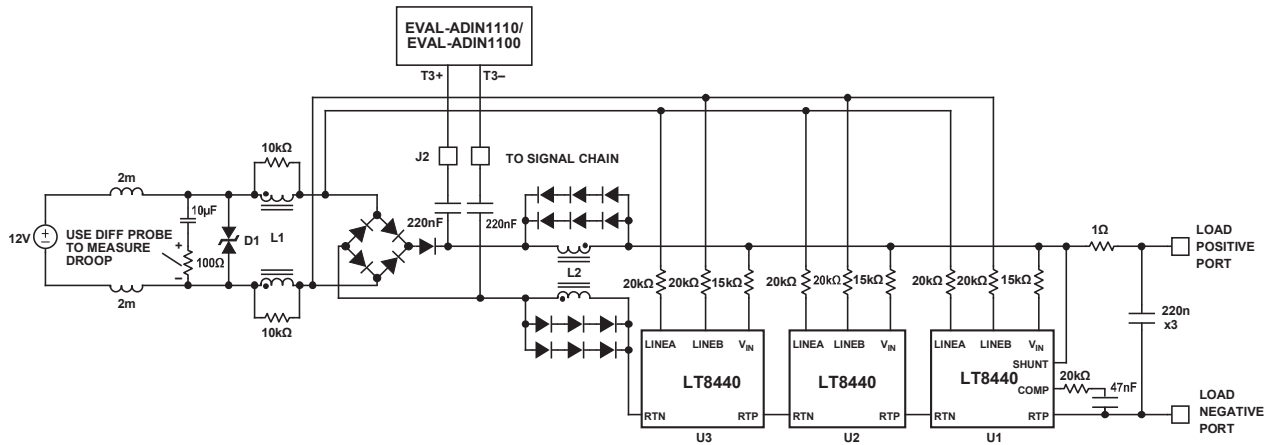

Figure 2. Signal Droop Test Setup
To measure the EVAL-LT8440-AZ circuit's attenuation on the communication signal, the EVAL-ADIN1110/EVAL-ADIN1100 board is used to transmit a test signal into signal chain port J2. Ideally, the resulting signal from the EVAL-LT8440-AZ board is a square waveform. However, different factors, including the circuitry around the signal port, surge protection, and power coupling inductors, affect the high and low states of the waveform. As a result, there is a decay in the voltage level during the high and low times of the waveform. The measurement of this decay is called transmitter output droop and is specified in subclause 146.5.4.2 of the IEEE 802.3cg-2019 standard. The proper test setup for measuring the signal droop on the EVAL-LT8440-AZ board is illustrated in Figure 2. The voltage droop measurement is defined as in equation (1):